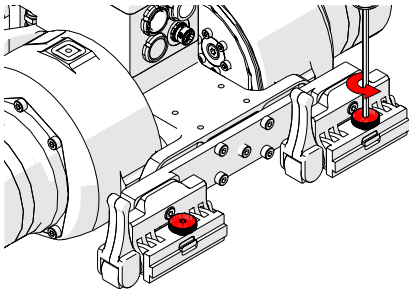

Fig. 52 - Loosen knobs with driver
2. To add a frame bar to the double pivot mount, begin by loosening the knobs on the nose of both pivot mounts with the provided 3 mm hex driver (Fig. 52).